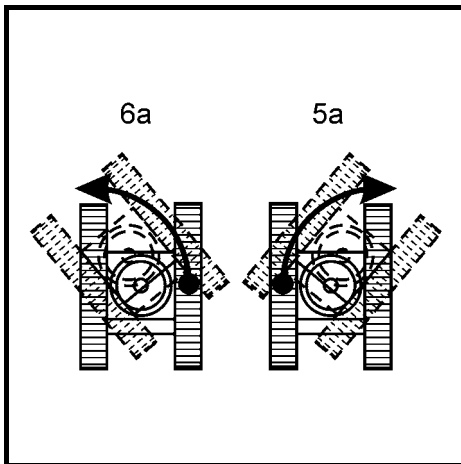

Fig. 20
- **To turn left forward (Fig. 20):**
- **To turn right forward (Fig. 20):**